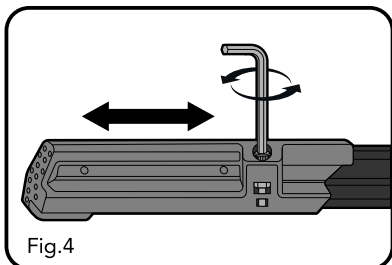

Fig.4
2. Using a 4mm Allen wrench, loosen the bolt on the composite foot until it slides freely. [fig.4]